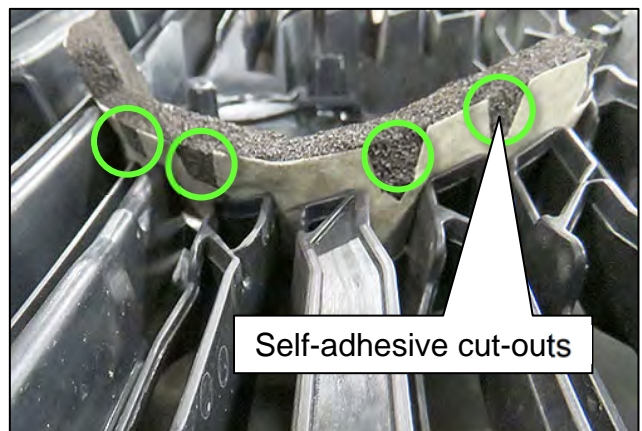
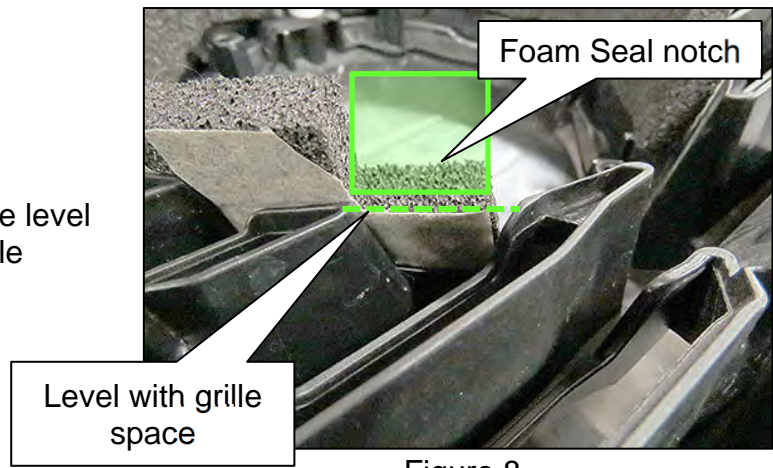

Figure 7
Figure 8
6. Continue attaching the foam as shown in Figure 7 and Figure 8 on page 7.